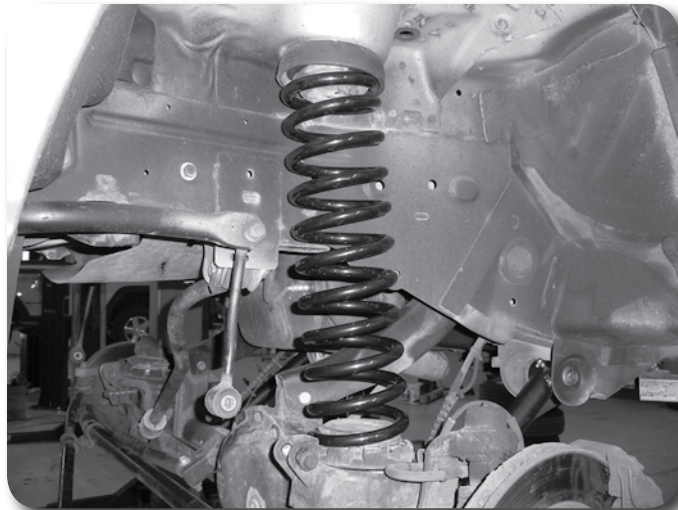

Figure 9
17. Locate and install the new front coil springs. **Figure 9** They are symmetric so there is not a specific top/bottom. Install the coils in the axle mount so that the end of the coil sets against the stop in the mount. Pushing the upper end of the coil into the upper isolator. Raise the axle until the springs are seated properly.